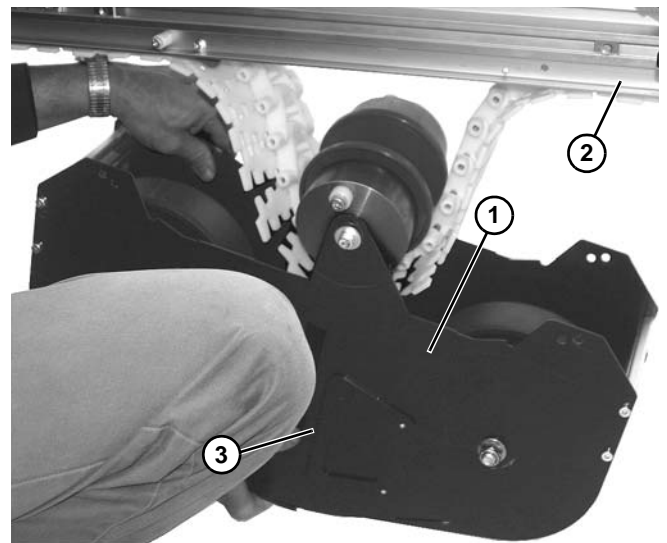

Figure 94
2. Lower weighted take up assembly (Figure 94, item 1) from conveyor (Figure 94, item 2) by disengaging locking teeth (Figure 94, item 3) on both sides.